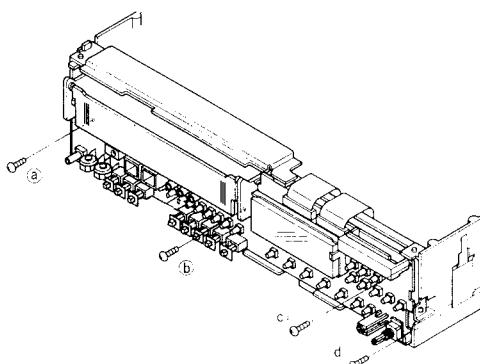

Fig. 2-9
- 2) Remove the four screws (Ⓐ, Ⓑ, Ⓒ and Ⓓ) retaining the PCB TIMER and then remove the PCB TIMER as shown in Fig. 2-9.